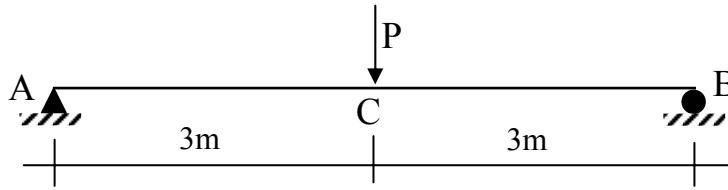

Figure 6.2
2. The simply supported beam of length 6m and plastic moment 150kNm carries a concentrated load  $P$  at midspan in Figure 6.2. Find the value of  $P$  required to cause collapse. Use the virtual work method.